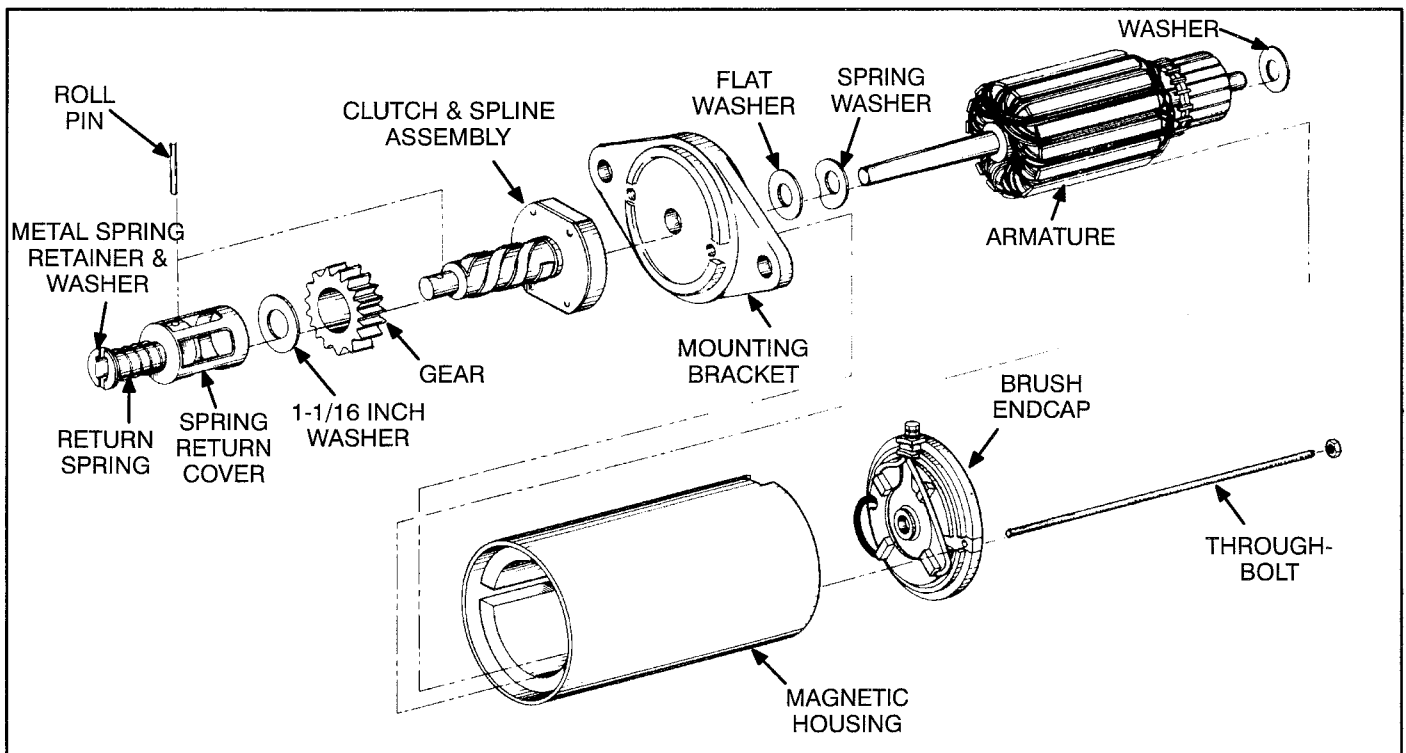

FIGURE 8-22. STARTER ASSEMBLY
8. Place a spring washer and a flat washer on the shaft, as shown in Figure 8-22.